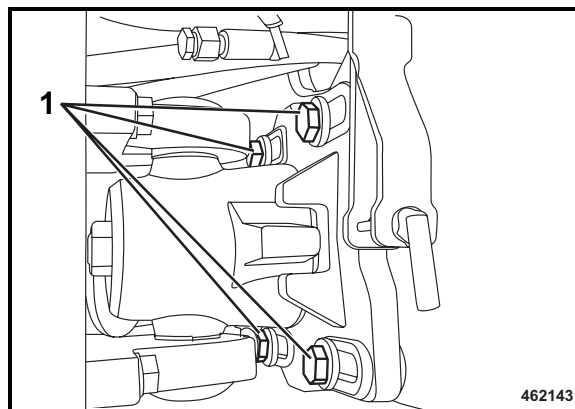

Fig. 87
- Disengage the articulation lock (Fig. 87).
- Slightly loosen the screws (1).